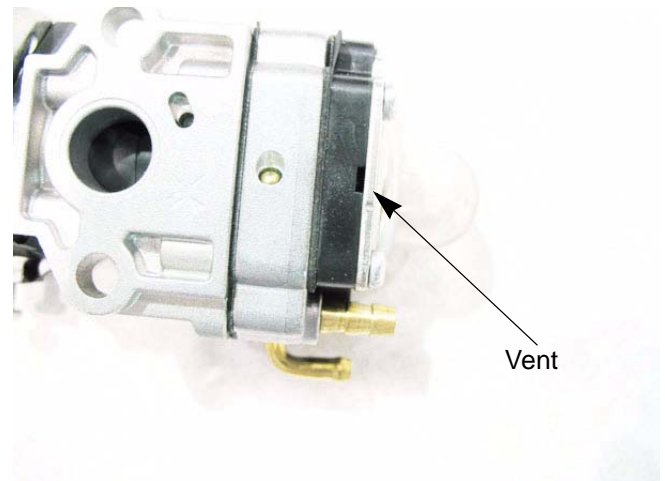

Figure 6.2
- 1e. Inspect and clean the vent under the primer body for debris. See Figure 6.2.